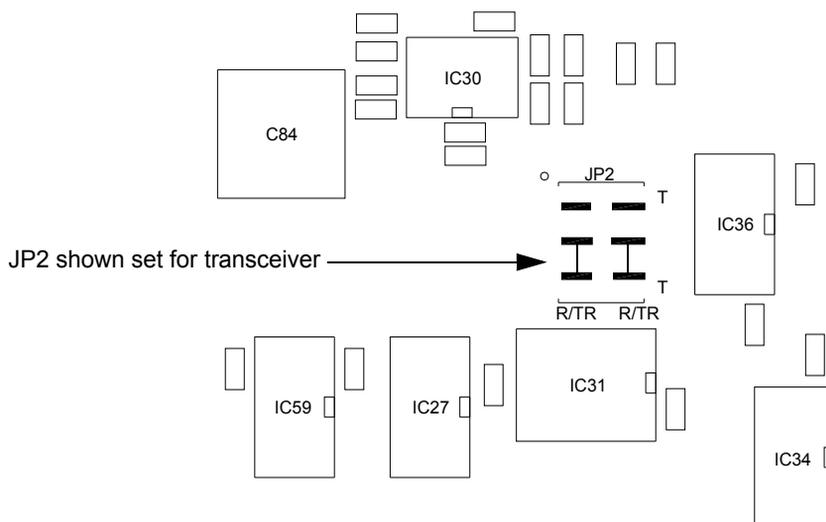

Fig 5-1 Processor Module JP2 Location
- (1) Place the module in position. Ensure no wires are trapped by the module. Ensure jumper JP2 on the module is set to 'R/TR' for transceiver (see Fig 5-1).